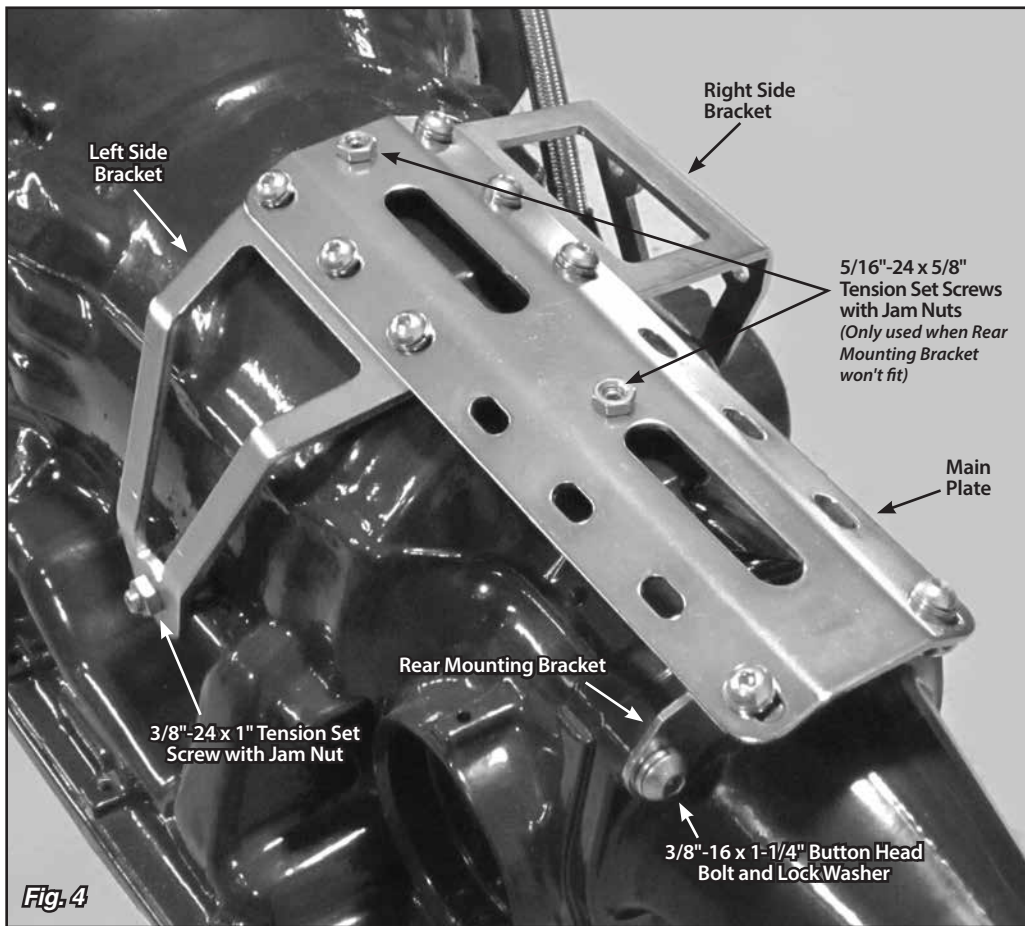

Fig. 4
- Step 5:** If you are using the rear mounting bracket, remove the top two tail housing bolts from the transmission. Install the mounting bracket assembly onto the transmission by first installing two 3/8"-16 x 1-1/4" button head bolts with lock washers through the rear mounting bracket and into the transmission at the tail housing. **Fig. 4** If you have a 4 wheel drive application that will not accept the rear mounting bracket, start the 5/16"-24 x 5/8" tension set screws into the tension set screw holes at the front and in the center of the shifter main plate. Set the mounting bracket assembly into place on top of the transmission. **Fig. 4**